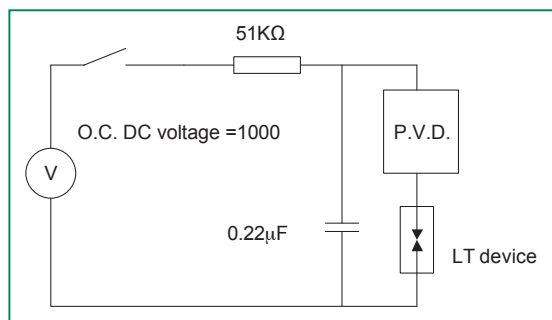
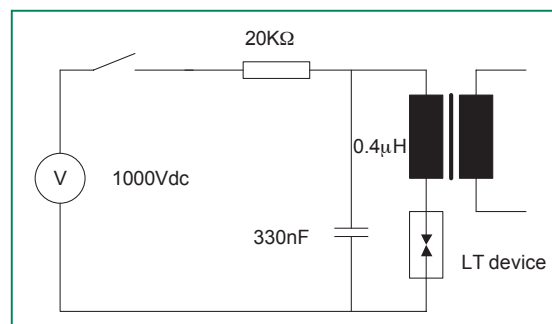

Fig 1. Recommended breakover voltage test circuit
Fig 2. Recommended Life Circuit
- (1) Measured on recommended test circuit (fig 1.)
- (2) Measured @ 100 Volts DC
- (3) Current required for transition to on-state
- (4) Measured @ 1 MHz, zero Volt bias
- (5) Measured on recommended test circuit (fig 2.)